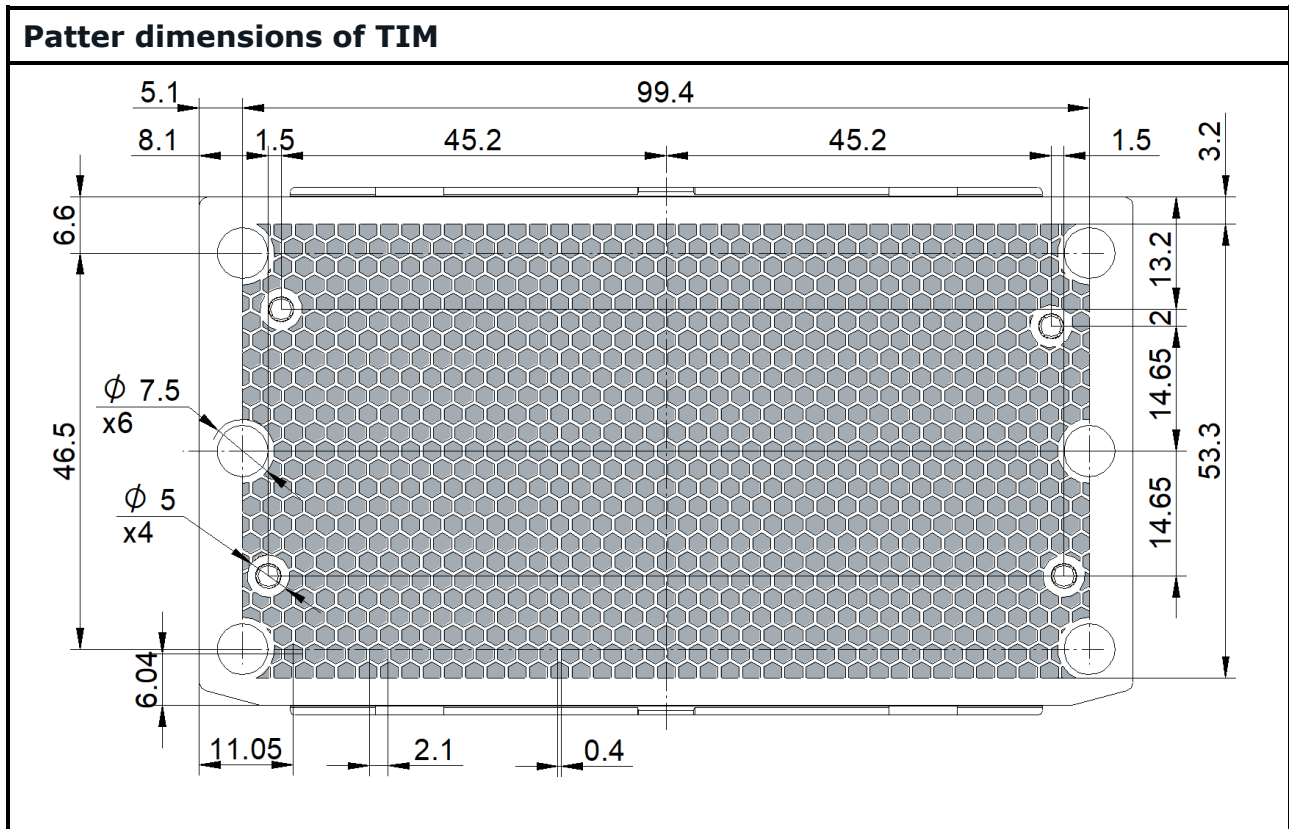

Figure 14: Honeycomb pattern
- Applied in a standard honeycomb pattern (see Figure 14 for details)
- Pattern: the below pattern and size is recommended (Figure 14)